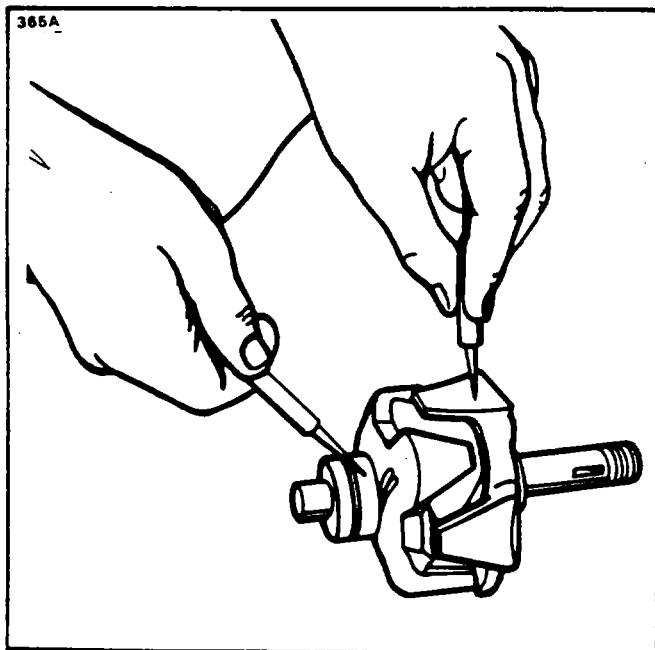
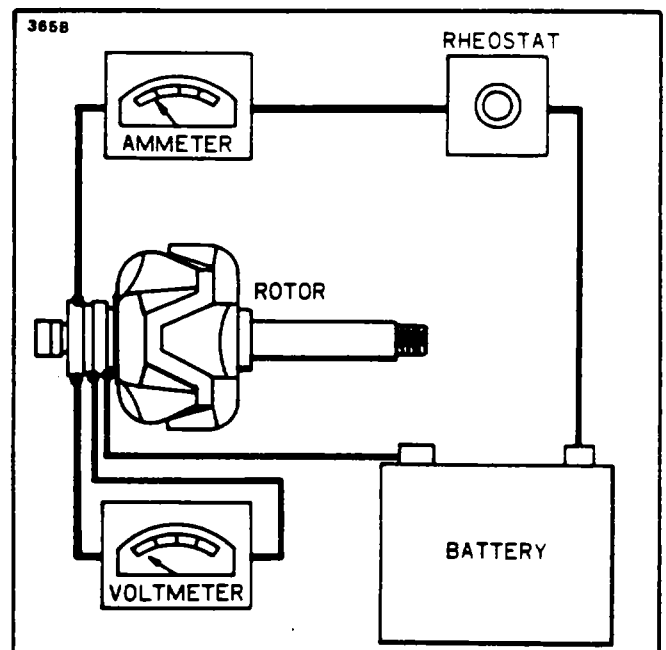

Figure 24-7. Testing Rotor for Ground
Figure 24-8. Testing Rotor for Shorts
1. Rotor: The rotor should be tested for grounded or shorted windings. The ground test can be made with test probes, connected in series with a 110-volt test lamp, an ohmmeter or any type of continuity tester. (Refer to Figure 24-7.) There must not be any continuity between the slip rings and the rotor shaft or poles. To test for shorted turns in the rotor winding, connect a voltmeter, ammeter and rheostat as shown in Figure 24-8. or use an ohmmeter. Rotor current draw and resistance are listed in the Alternator Service Test Specifications paragraph. Excessive current draw or a low ohmmeter reading indicates shorted windings. No current draw or an infinite ohmmeter reading would indicate an open winding.